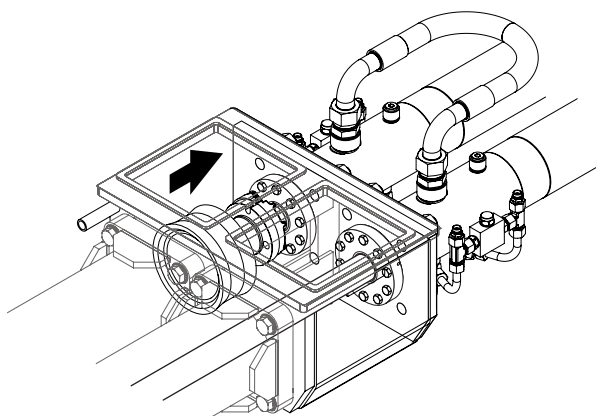

Figure 21
10. Restart the engine, and clear all E-stop requests. Press the concrete pump forward or reverse button and the ram change button simultaneously to slowly retract the cylinder rod until the ram is clear of the material cylinder (Figure 21). Release the concrete pump forward or reverse button or ram change button to stop the differential cylinders. Shut off the engine.